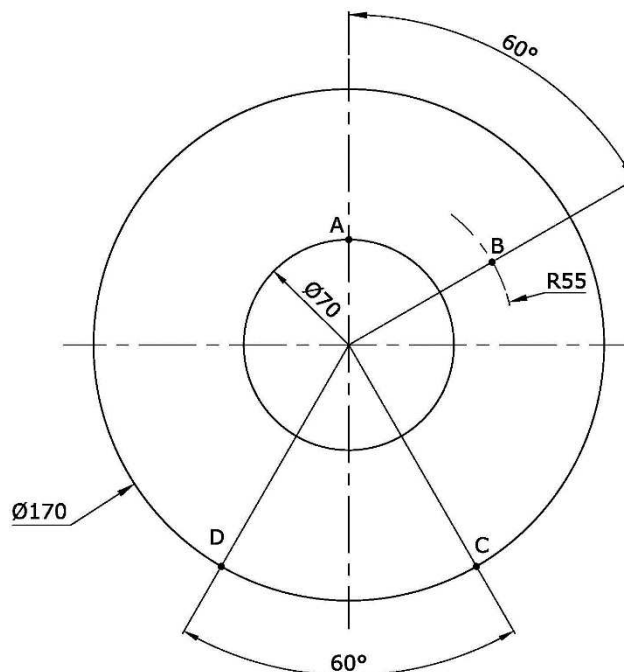

Figure 3b
- a) Copy, full size, Figure 3b and using the specification given below, construct:
- i. a clockwise Archimedean spiral starting at point A on the 70 mm diameter circle and reaching a point B on the 55 mm radius in 60° rotation. (2)
- ii. a uniform acceleration and uniform retardation displacement graph giving a lift of 30 mm in 90° rotation (from 60° to 150°). Graph scale 15 mm rep 15°. Project the graph on the cam. (4)
- iii. an arc CD to represent the dwell. (1)
- iv. an anti-clockwise Archimedean spiral, starting from point A on the 70 mm diameter base circle and reaching a point D on the the 170 mm diameter circle after 150° rotation. Line by a bold line the cam profile. (2)
- i. displacement graphs; (1)
- ii. cam followers. (1)
- c) Draw an in-line cam follower suitable for the cam constructed. (2)